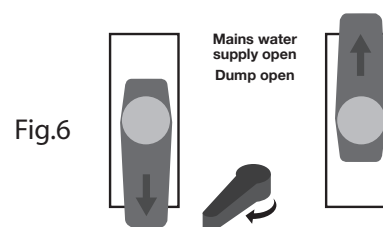

Fig.6
- 7) Set the valves as per Figure 6 and reverse the flow.